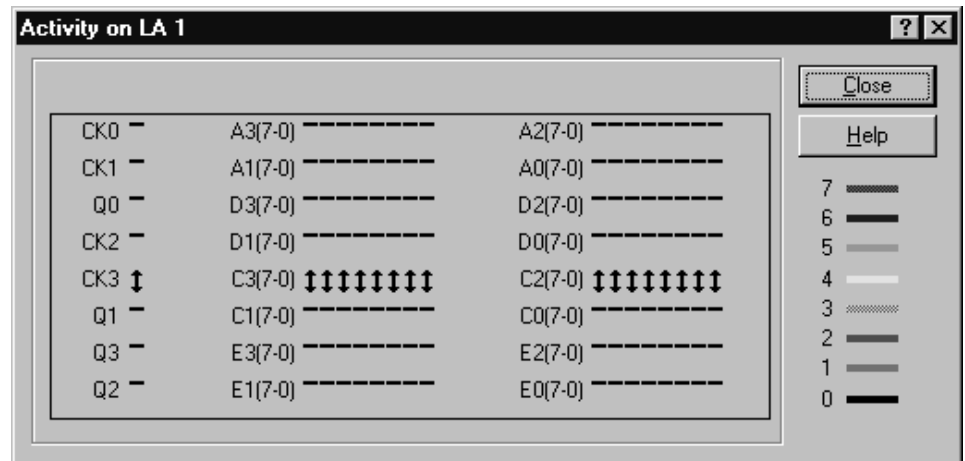

Figure 2–2: Activity Monitor
4. Refer to Figure 2–1 and connect the podlets of the acquisition probe to J1 and J2 on the fixture. Ensure that you connect the ground side of the podlets to the ground side of the connectors.
Figure 2–2 shows an example of the Activity Monitor. Note the signal activity for clock CK3 and data channels for the C3(7-0) and C2(7-0) groups. Also note that there is no activity on the other groups because the probe podlets are not connected to a signal source (the channels are all high).